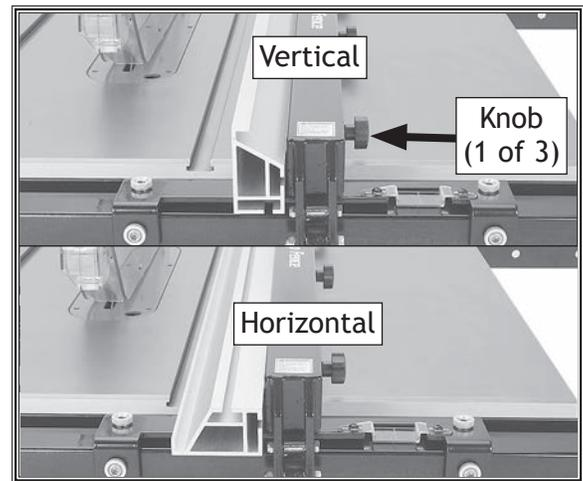

Figure 59. Rip fence positions.
5. Loosen fence knobs (see **Figure 59**), remove rip fence, then re-install in vertical position for thicker workpieces, or in horizontal position for thinner workpieces and angled cuts where blade is tilted over fence. Lift fence up and tighten each fence knob.
10. Use push stick to feed workpiece through saw blade, as shown in **Figure 59**, until workpiece is completely beyond saw blade.